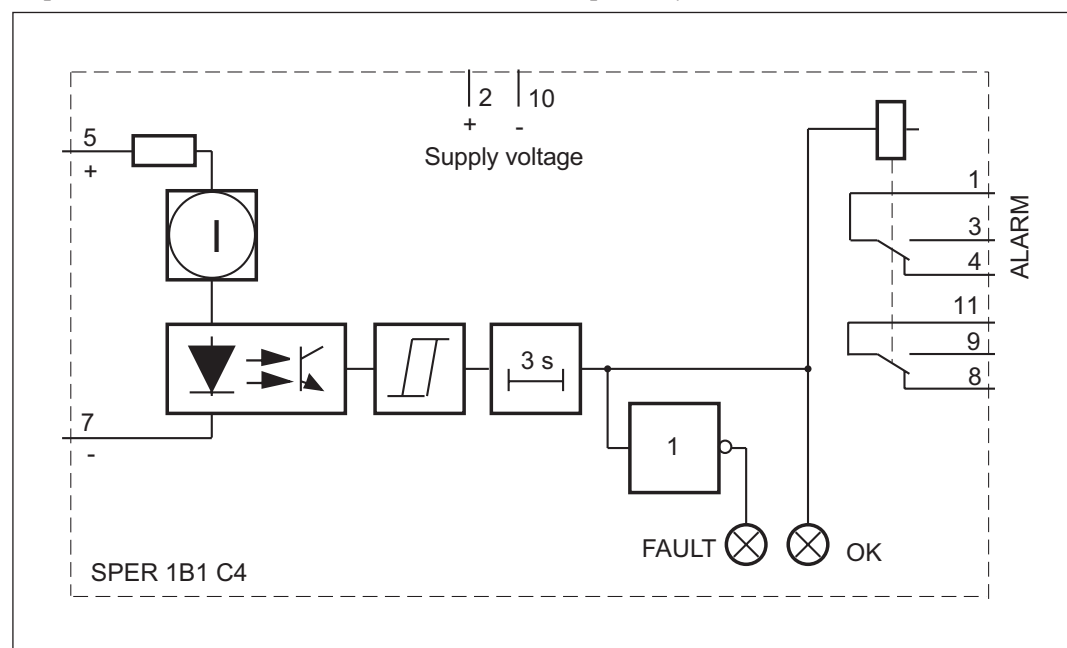

Fig. 1. Block diagram for supervision relay SPER 1B1 C4
The constant current generator (I) of the driver circuit feeds a small I_c current of some 1.5-5 mA, depending on the relay type used, through the circuit to be monitored. The contact inputs 5-7 of SPER 1B1 C4 or 11-21 of SPER 1C1 or SPER 1C2 are connected over the NO control contact (f) and so the measuring current flows between the poles of the control voltage (see Figs 1, 2 and 3).